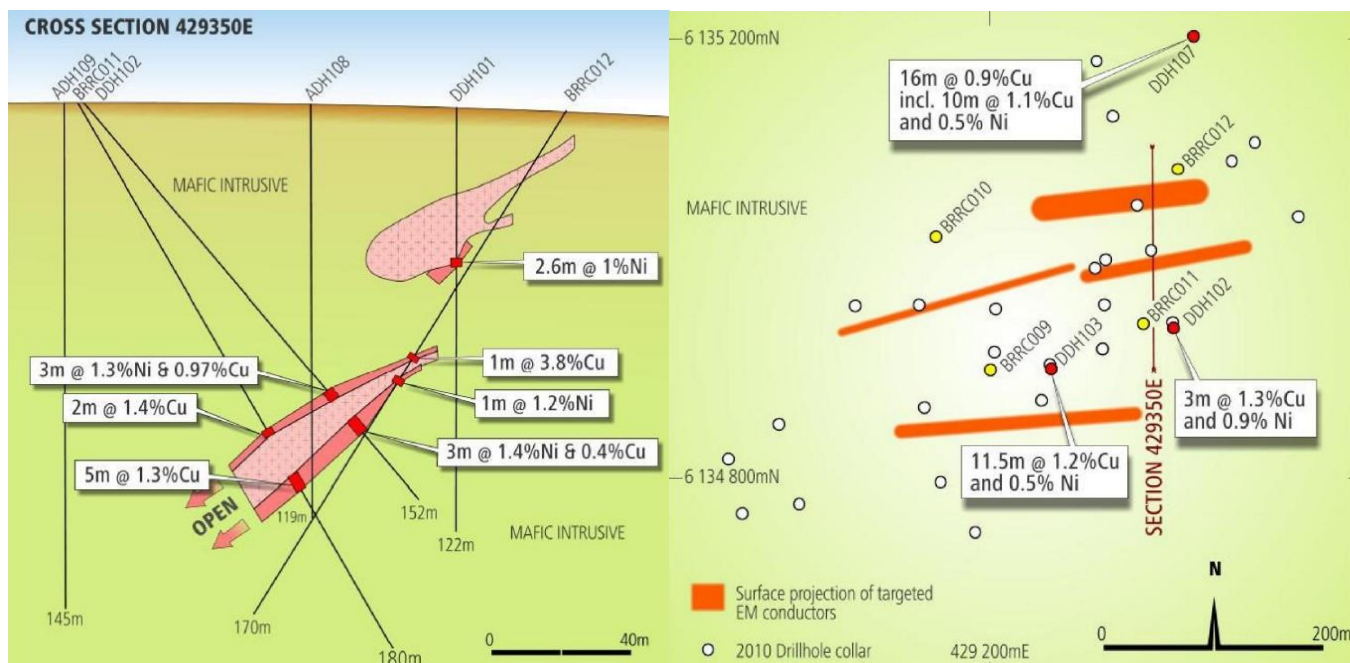

Figure 3. Location of historical drilling at Bow River nickel copper sulphide project.
- **Diamond drilling commencing late June to test deeper portion of the Bow River intrusive, including a possible extension to the mineralisation encountered in historical drilling, Figure 3;**